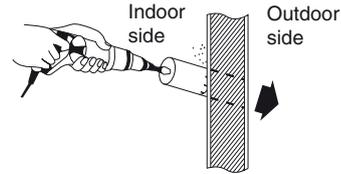

Fig. 3-7
- (4) Using a sabre saw, key hole saw or hole-cutting drill attachment, cut a hole in the wall. See Table 3-1 and Fig. 3-7.